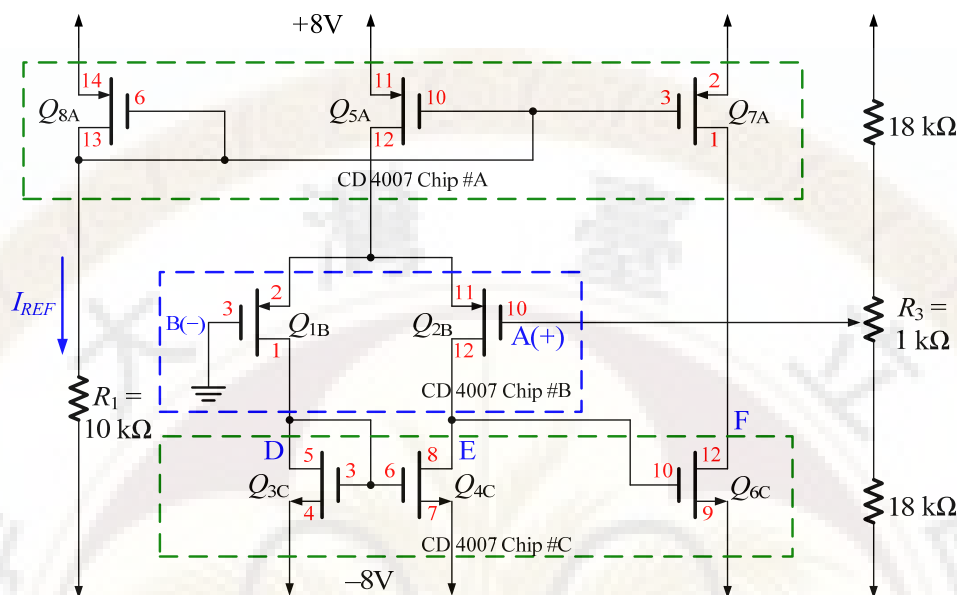

Fig. 2 DC Analysis of Two-stage OP-Amp circuit
- In Fig. 2, adjust VR ( $R_3$ ) 1 kΩ and use multi-meter to measure  $V_A$ ,  $V_D$ ,  $V_E$ .